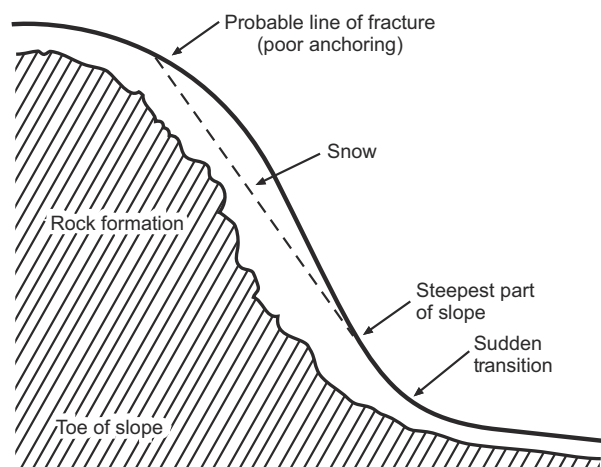

Figure 6-8. Convex Slope.
- *Convex slopes.* Slabs are most likely to fracture just below the bulge where stresses are greatest (see fig. 6-8).